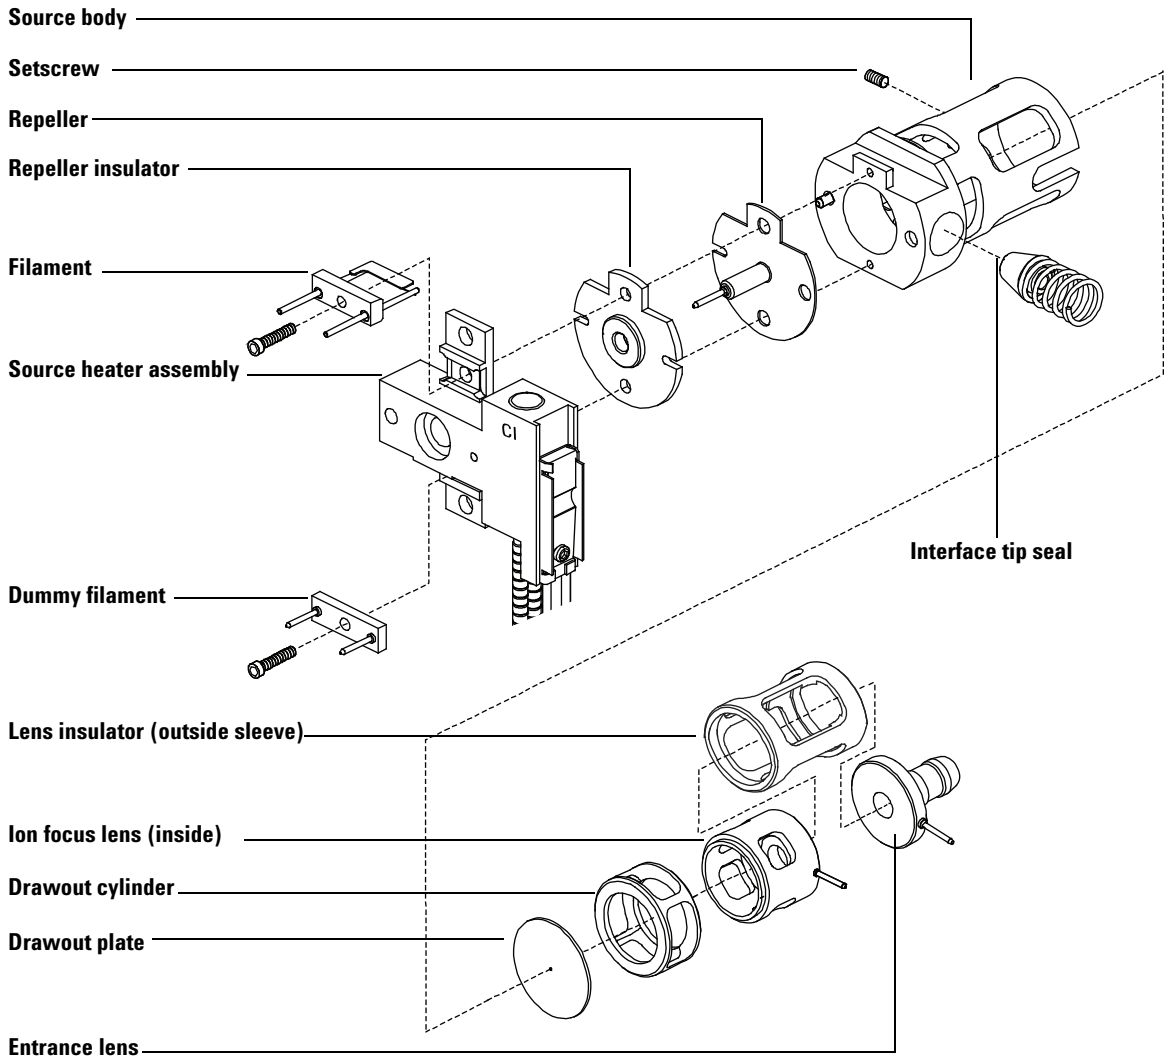

Figure 28 Disassembling the CI ion source
- 3 Separate the source heater assembly from the source body. The source heater assembly includes the source heater, repeller, and related parts. (See Figure 28.)
- 4 Disassemble the repeller assembly by removing the ceramic insulator from the repeller. (See Figure 28.)
- 6 Pull the lenses out of the source body and separate the lens insulator, ion focus lens, drawout cylinder, drawout lens, and entrance lens. (See Figure 28.)